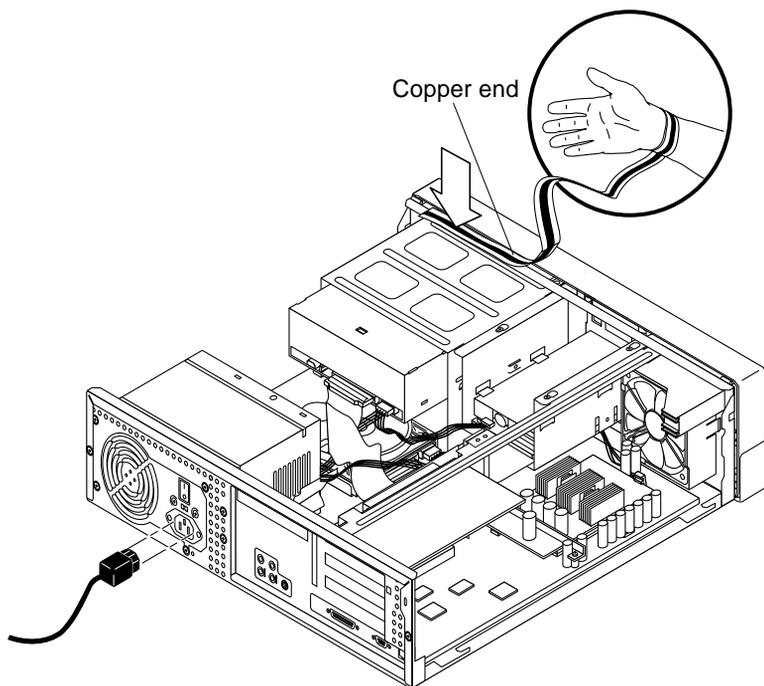
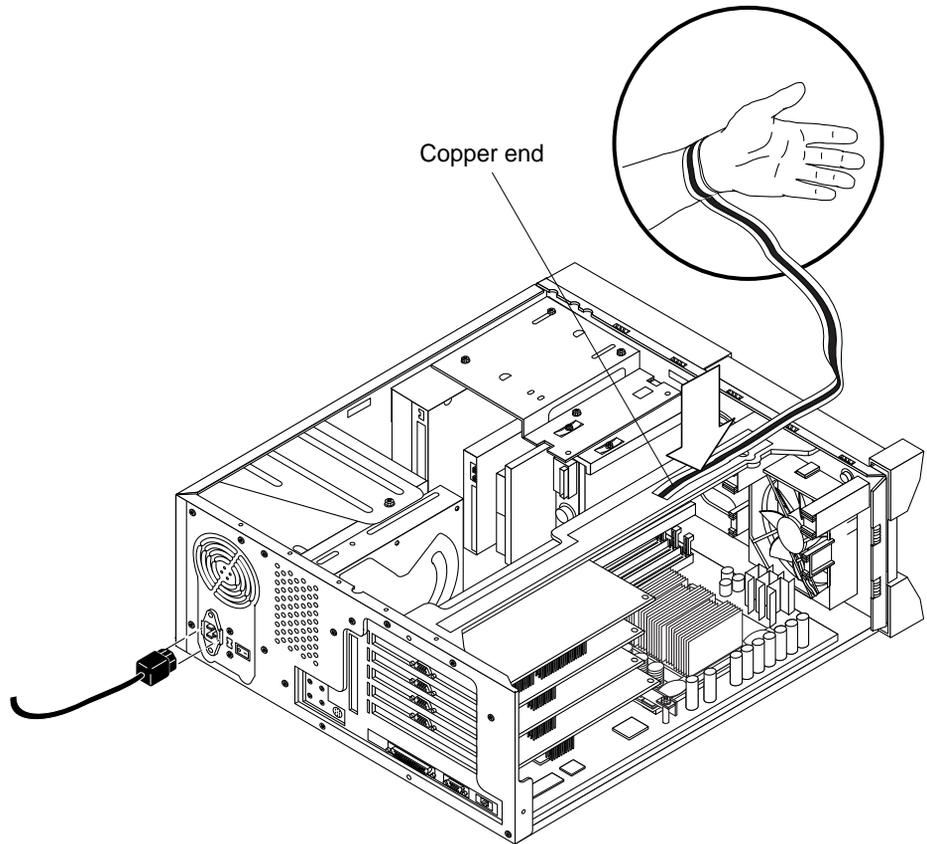

FIGURE 7-3 Attaching the Wrist Strap to the Chassis (Ultra 5)
FIGURE 7-4 Attaching the Wrist Strap to the Chassis (Ultra 10)
3. Attach the copper end of the wrist strap to the chassis (FIGURE 7-3 or FIGURE 7-4).